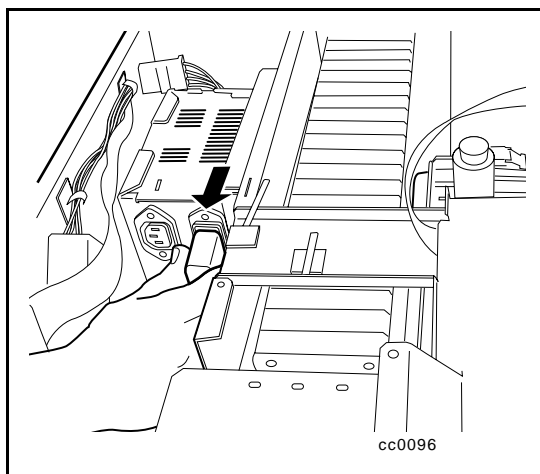

Figure 5-26. Unplugging the power supply
8. Unplug the power cable from the power supply (see Figure 5-26).